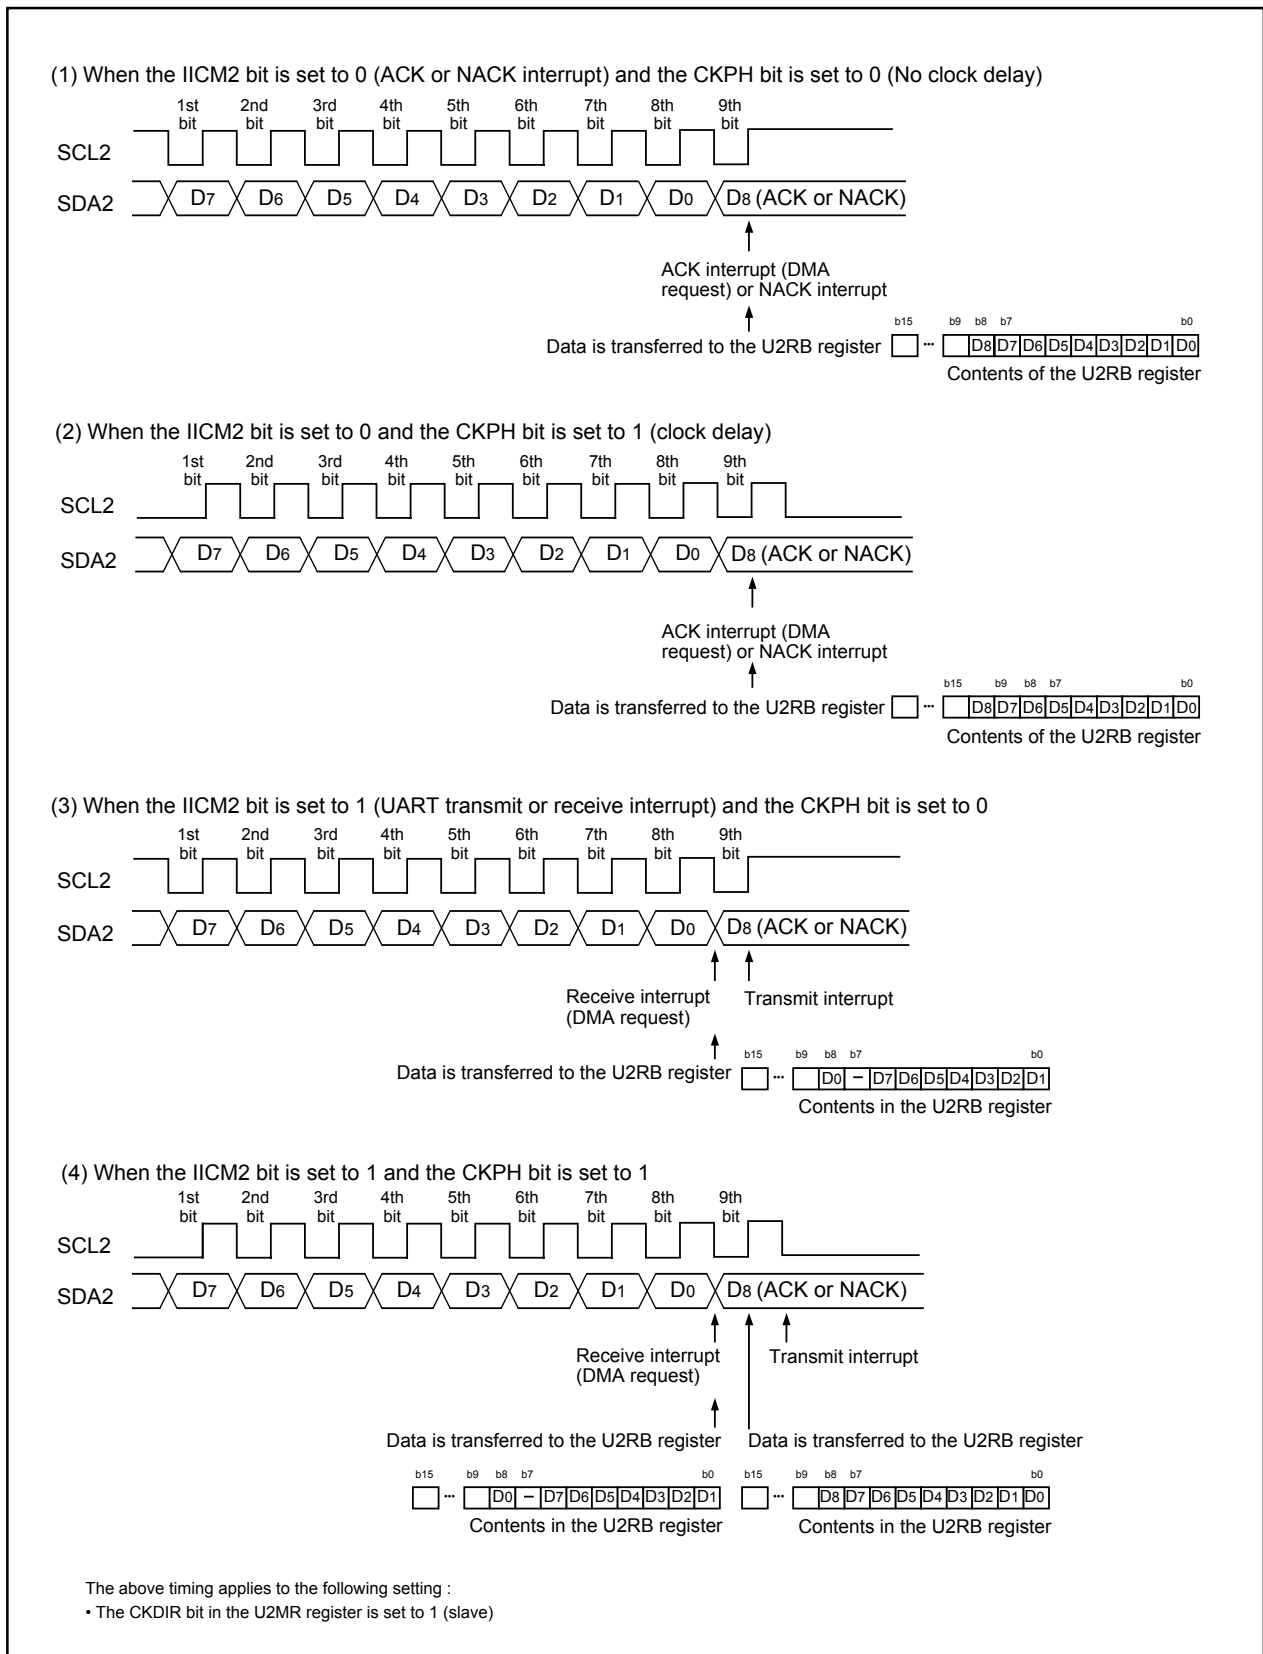

Figure 14.23 Transfer to U2RB Register and Interrupt Timing
| Interrupt source for number 10 (1) (See Fig.14.23)                  | -   | Start condition detection or stop condition detection (Refer to Table 14.14)            |  |  |  |
| Interrupt source for number 15 (1) (See Fig.14.23)                  | UART2 transmit operation - transmit operation is started or completed (selected by U2IRS)         | No acknowledgment detection (NACK) - at the rising edge of 9th bit of SCL2              | UART2 transmit operation - at the rising edge of 9th bit of SCL2 | UART2 transmit operation - at the next falling edge after the 9th bit of SCL2  |  |
| Interrupt source for number 16 (1) (See Fig.14.23)                  | UART2 receive timing - when 8th bit is received, CKPOL = 0 (rising edge) CKPOL = 1 (falling edge) | Acknowledgment detection (ACK) - at the rising edge of 9th bit of SCL2                  | UART2 receive operation - at the falling edge of 9th bit of SCL2 |  |  |
| DMA1 source (See Fig.14.23)  | UART2 receive operation   | H   | L  | H  | L  |